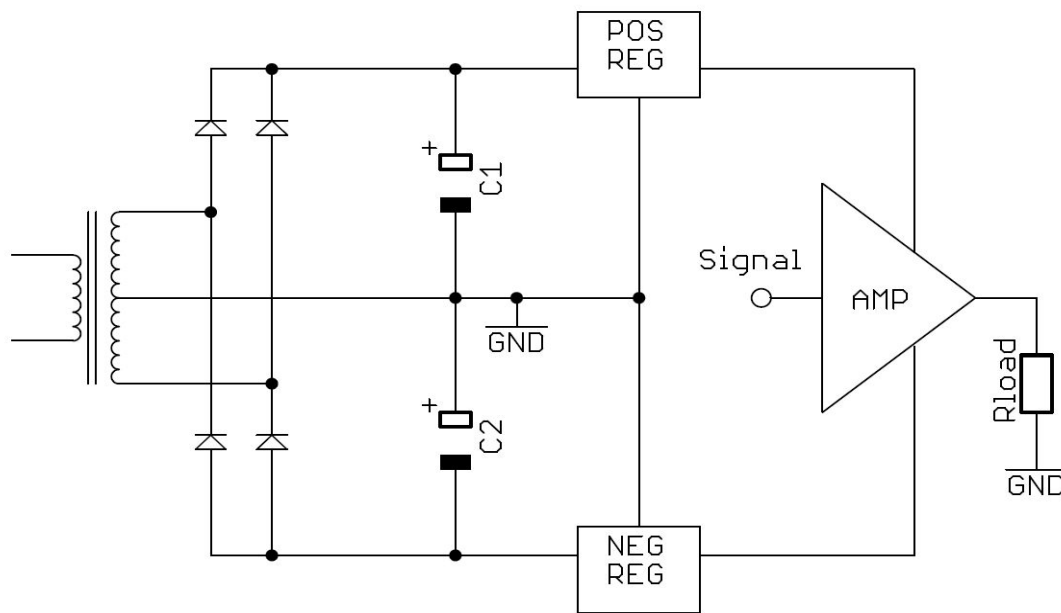

fig 1: Standard voltage regulator arrangement
- there is a voltage drop of 4 diodes in contrast to two diode drop using fig.1. If you are hard on the edge with the power supply, this will matter